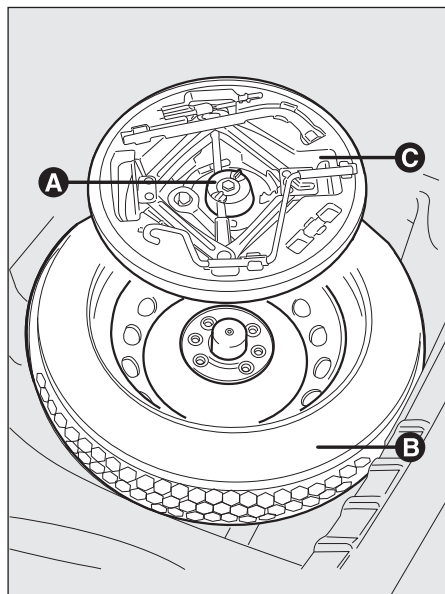

fig. 151
- unscrew the locking device A-fig. 151;
- take out the tool container C-fig. 151 and put it alongside the wheel to be changed;
- take out the spare wheel B-fig. 151;